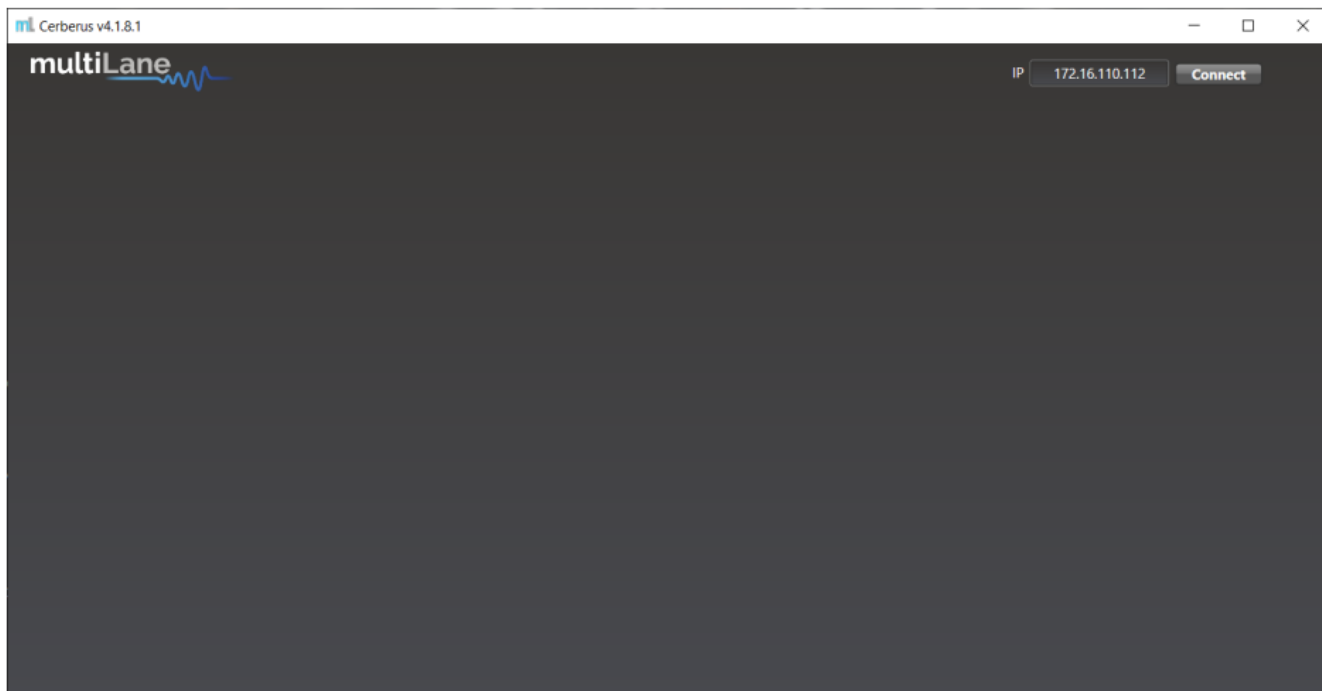

Figure 2: Connection box
- Connect using the IP address of the target instrument(s) (Figure 2). The IP address is printed on the back side of the instrument.